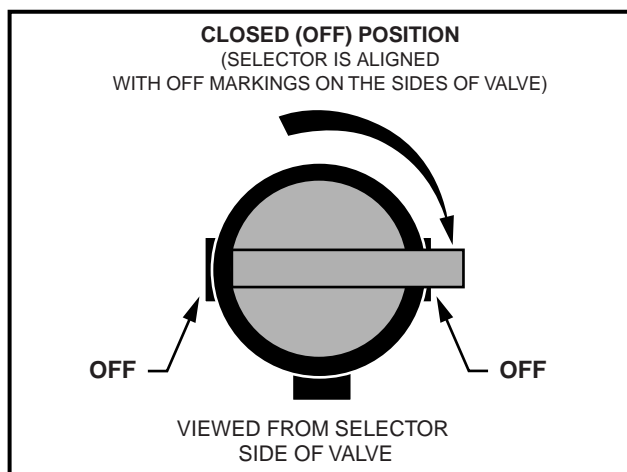

Figure 12 Fuel Shut-off Valve – Closed Position
2. Turn key switch to OFF and place the Forward/Reverse handle in the NEUTRAL position. Remove the key and turn fuel shut-off valve to closed (OFF) position when the vehicle is not in use (**Figure 12, Page 19**).
- TURN FUEL SHUT-OFF VALVE TO CLOSED (**OFF**) POSITION (**FIGURE 12, PAGE 19**).